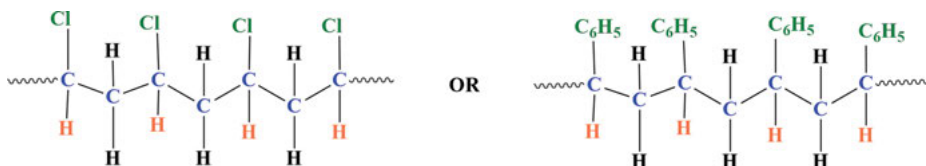

Figure 6.11: Isotactic polymers.
**6.8.1** Isotactic: Substituents or side groups (chloride atoms or phenyl groups) are on the same side of the backbone (Figure 6.11).